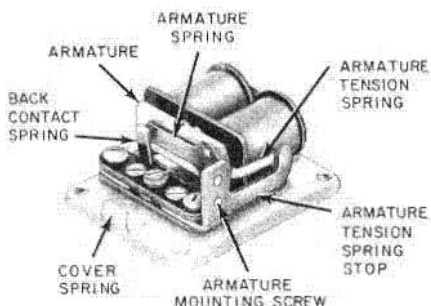
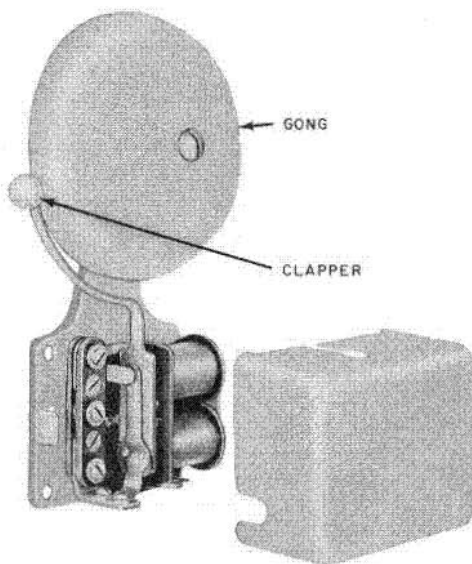

Fig. 1—7F Buzzer
Fig. 2—7-Type Bell
2.04 The 7F buzzer (A&M Only) (Fig. 1) and the 7-type bell (Fig. 2) have the same design features except the bell is equipped with a clapper and 3-inch gong.